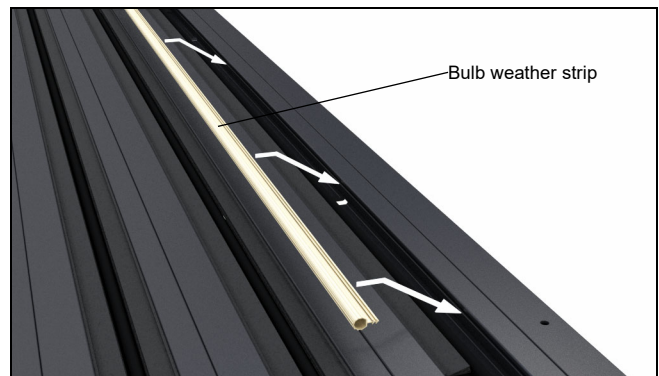

Figure 3
5. Flip sill assembly so top side is up. Insert bulb weather strip into kerf, adjacent to the pile weather strip. Install sill track if shipped loose. See figure 3.